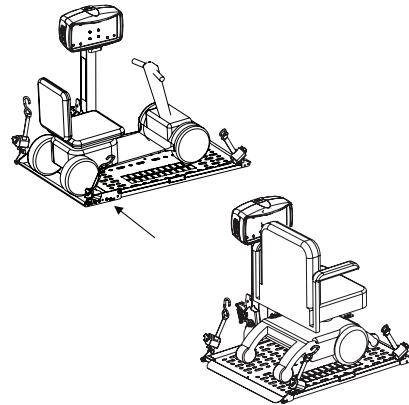

Figure 7-3
2. Maneuver the mobility device until it is positioned at the center of the platform or the drive wheels are resting within the wheel cradles, depending on the lift and chair model. *See Figure 7-3.*